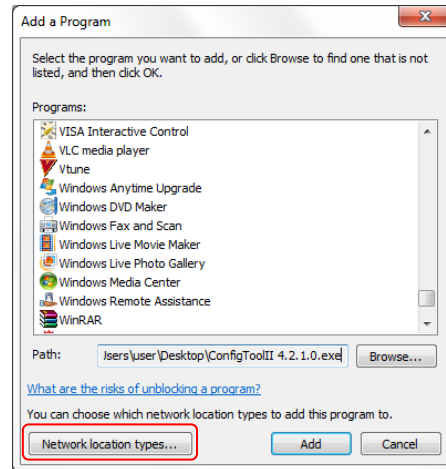

Figure 89 - Choose network location types
7. Click the “Network location types...” button. Refer to Figure 89.